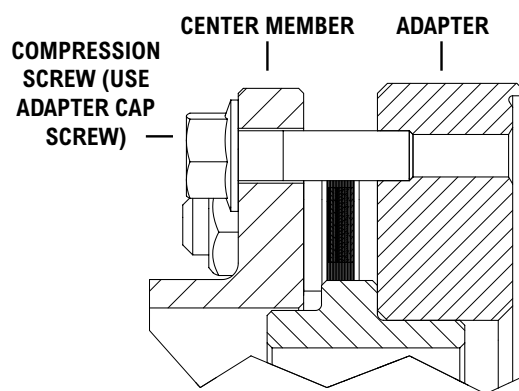

Figure 11B - Using Cap Screws for compression if adapter
8.3 Due to the hub-to-adapter piloting feature when using an oversize hub option, the center member subassembly must be compressed to allow it to be slipped between the two end hubs. Use the hub-to-adapter cap screws (provided) as defined in Table 2 to compress the center member assembly by inserting them through the holes in the flanges of the center spool and threading them into the adapter tapped holes as shown in Figure 11B.
- 9.1 Remove the center member subassembly by removing all cap screws from hubs to compress the center member assembly by inserting them through the holes in the flanges of the center spool and threading them into the adapter tapped holes as shown in Figure 11B and dropping the center member assembly out from between the hubs. There are jacking screw tapped holes in each end hub to disengage the pilots between the hubs and adapters, using the hub to adapter cap screws as defined in Table 5.